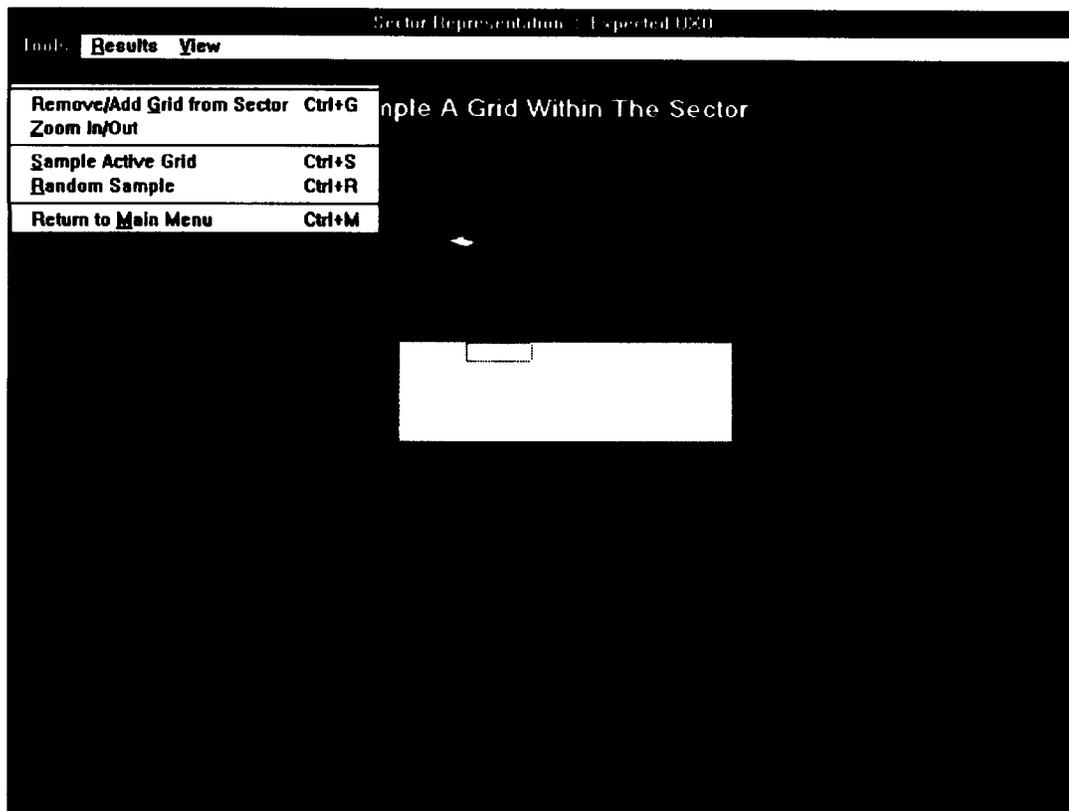

Figure 6.4-1. Tools Menu
- \* Remove a grid by first clicking in the grid to be removed, then choosing the **Remove/Add Grid From Sector** on the **Tools** menu, see Figure 6.4-1.
The **Tools** menu, Figure 6.4-1, contains the most frequently used sector map commands. An illustration is provided below. The **View** menu allows the user to display a map of non-UXO items and a map of interpolated UXO values. (Note: The interpolated UXO map will be available only after clustering the sector.)